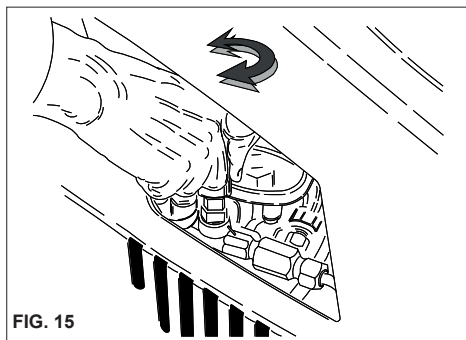

FIG. 15
This chapter concerns only those models provided with the "pressure regulating" device. The pressure regulator, fig. 15, allows the operator to adjust the working pressure. When knob C is turned in an anti-clockwise direction (B) (minimum), the working pressure is reduced.